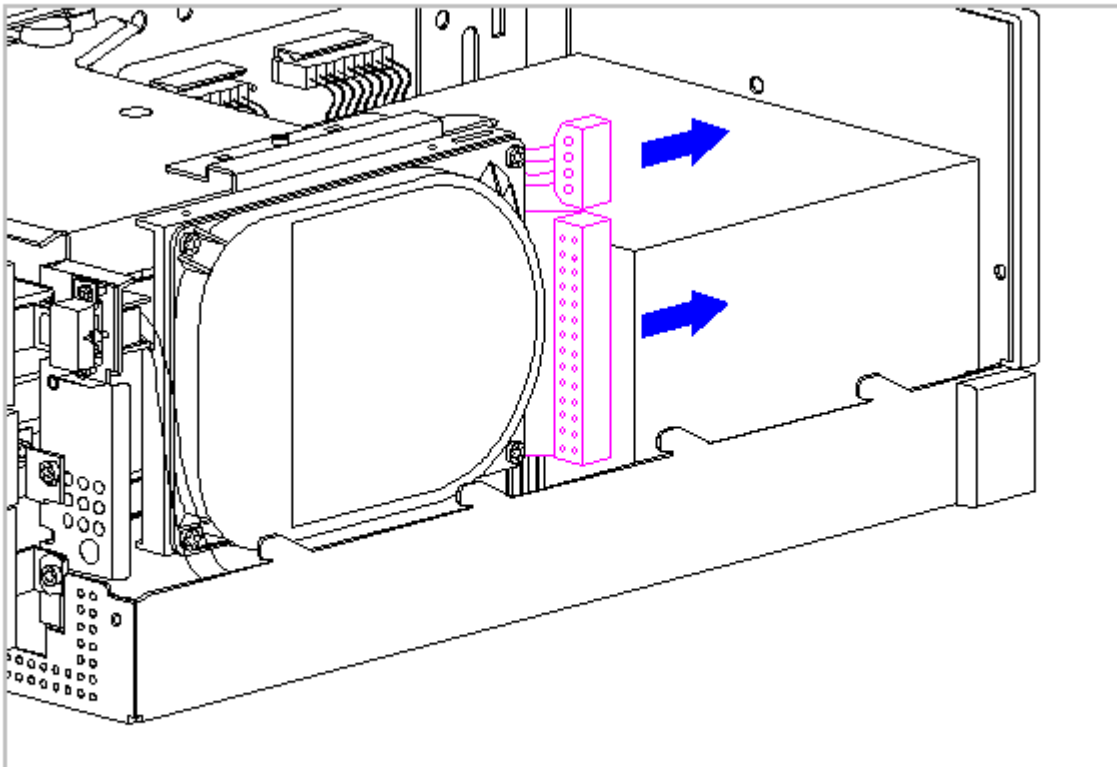

Figure 5-20. Disconnecting the Hard Drive Cables
drive bays cage (Figure 5-20). To remove and replace the internal hard drive, complete the following steps:
3. Disconnect the power and signal cables from the hard drive (Figure 5-20).